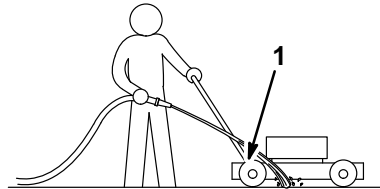

Figure 29
3. Hold the running garden hose at handle level and direct the water to flow on the ground just in front of the right rear tire (Fig. 29).